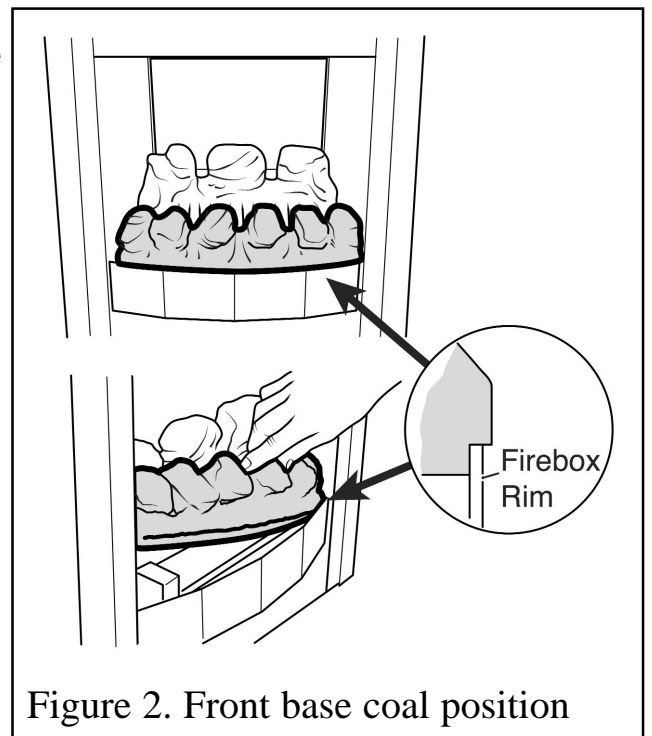

Figure 2. Front base coal position
**2.** Place the front base coal in the firebox with its bottom front locating over the front rim of the firebox. Pull the coal forward so that it locates immediately behind the front rim of the firebox (See figure 2). The front base coal will touch the rear base coal as it is located.